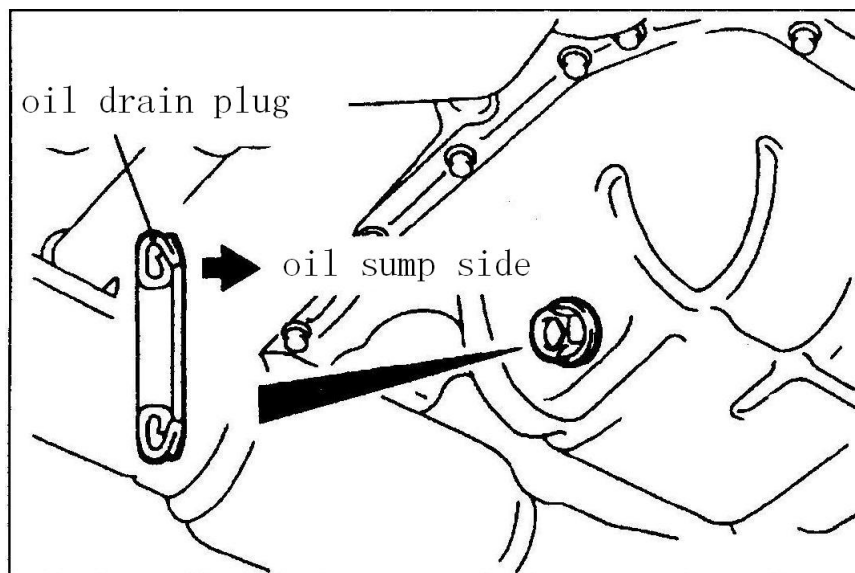

Fig 5-1
(1) Pull out the level gauge slowly and check that the oil level is in the illustrated range. Check that the oil is not excessively dirty, that there is no coolant or petrol mixed in, and that it has sufficient viscosity. (See Fig 5-1)